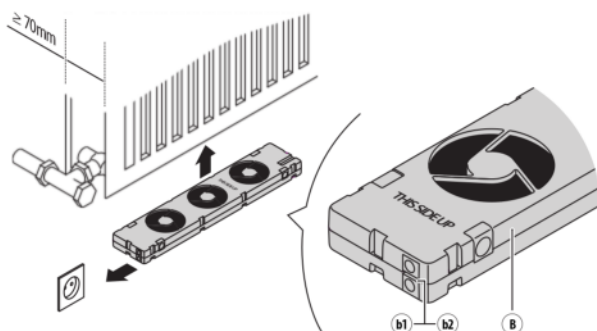

Fig. 1 - Position the SpeedComfort (B1).
1. Make sure that the **SpeedComfort** (B1) faces upwards and that the **female connectors** (b1, b2) point towards the wall socket (see fig. 1).